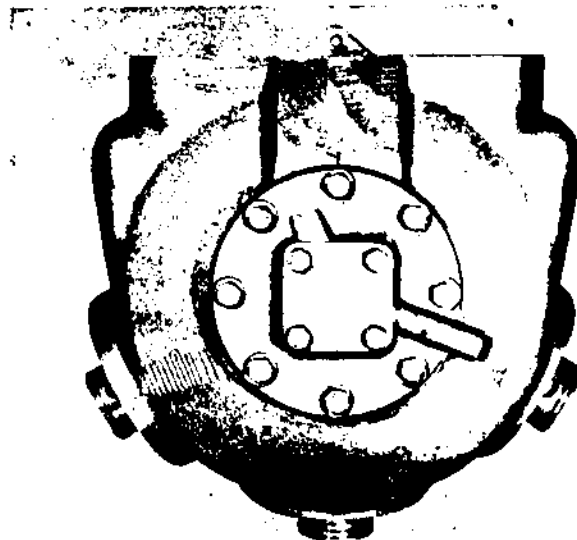

Figure 3-7. Piston Rings Removed
d. Push the piston rods down so that the piston rings extend below the cylinders. Remove and discard piston rings. Use only new rings when reassembling the compressor. (See figure 3-7.)